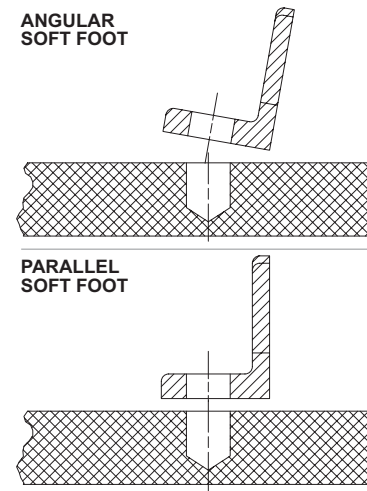

Figure 5-1 – Illustrations of Soft Foot
2. Check each foot for gaps between the foot and base (soft foot). Shim as necessary to fill gap within 0.002 in. (0.05 mm). **Figure 5-1** shows the two most common types of soft foot conditions. If either type is present at a measurement of more than 0.003 in. (0.076 mm), the booster may fail prematurely.